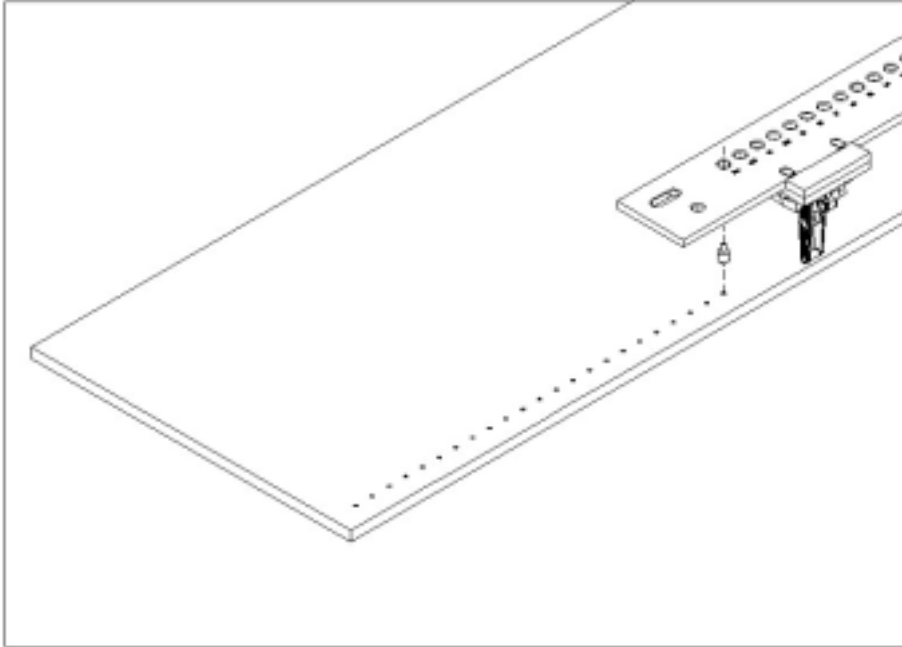

Figure 7
7. Place a stop-pin in the last hole bored in the work-piece; place the 23rd of the hole-boring template over the stop-pin and secure it to the work-piece with the toggle clamps as shown in Figures 7 & 8.